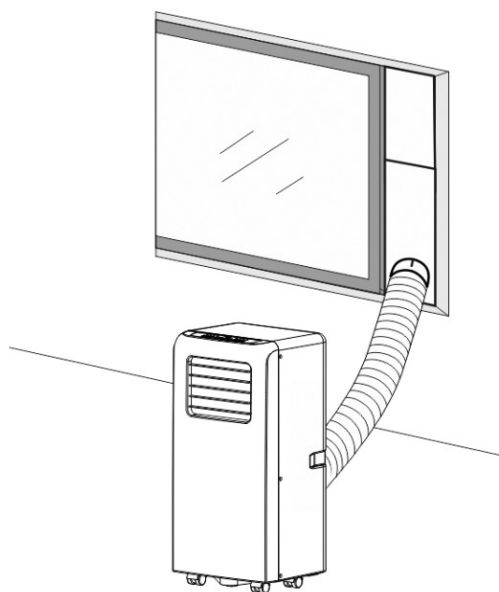
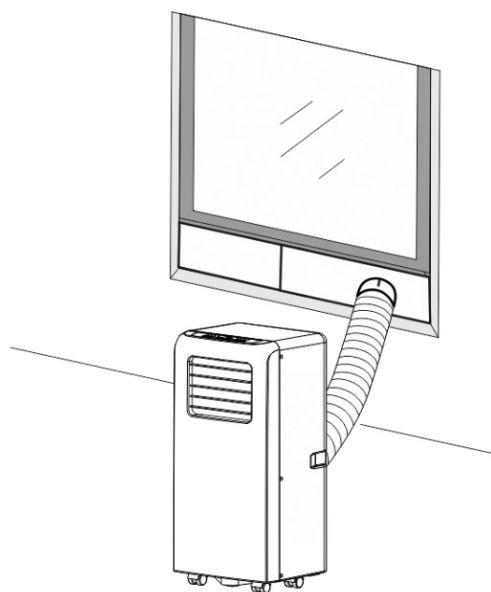

Fig. 2
Fig. 2a
2. As shown in Fig.2 and Fig.2a, install the exhaust hose, and adjust the window position well.